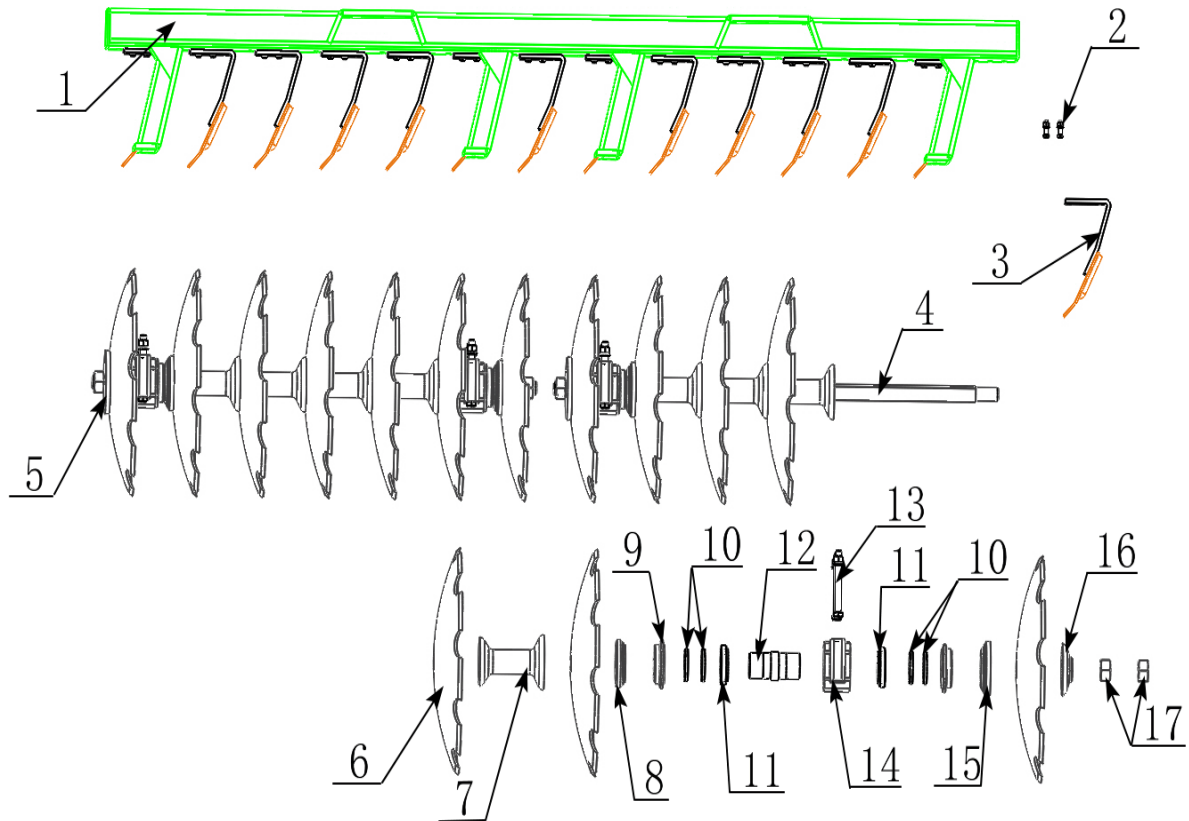

Figure 10
The disc scraper (1) must be mounted maintaining a 10mm space from the disc. (Figure 10).